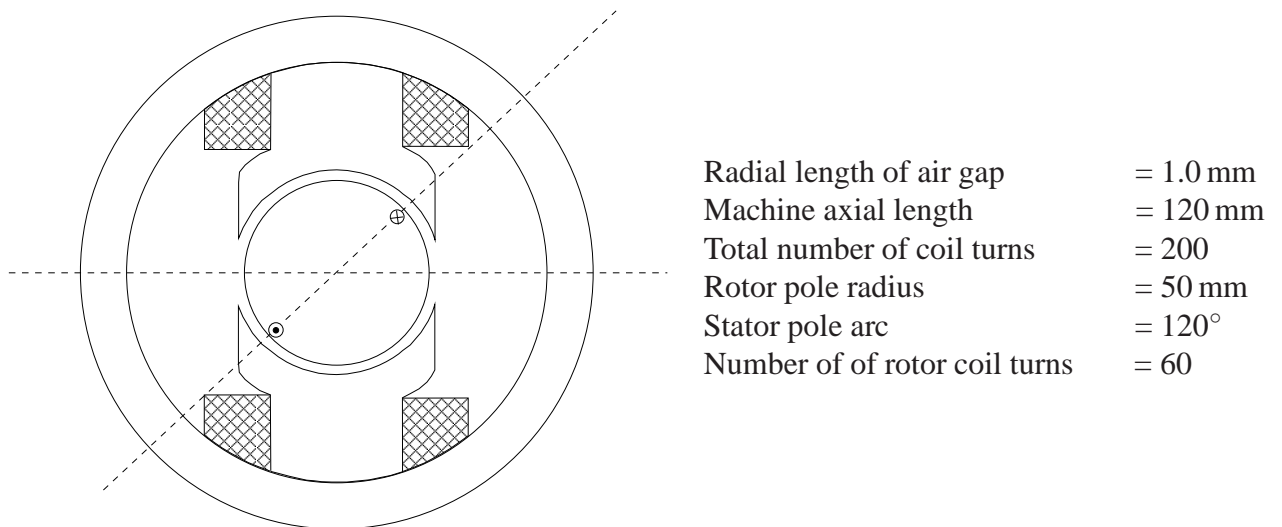

Figure 2: Rotary machine for the tutorial problems. The 200 coil turns are split into the two halves.
5. This question concerns the elementary rotary system shown in figure 2, with the parameters indicated.
- (a) If the stator coil in figure 2 has a current of 10.0 A, what is the radial flux density in the air-gap?
- (b) If the rotor coil of figure 2 carries a current of 6.0 A, what is the torque produced? [Hint: this is a $F = BiL$ problem.]